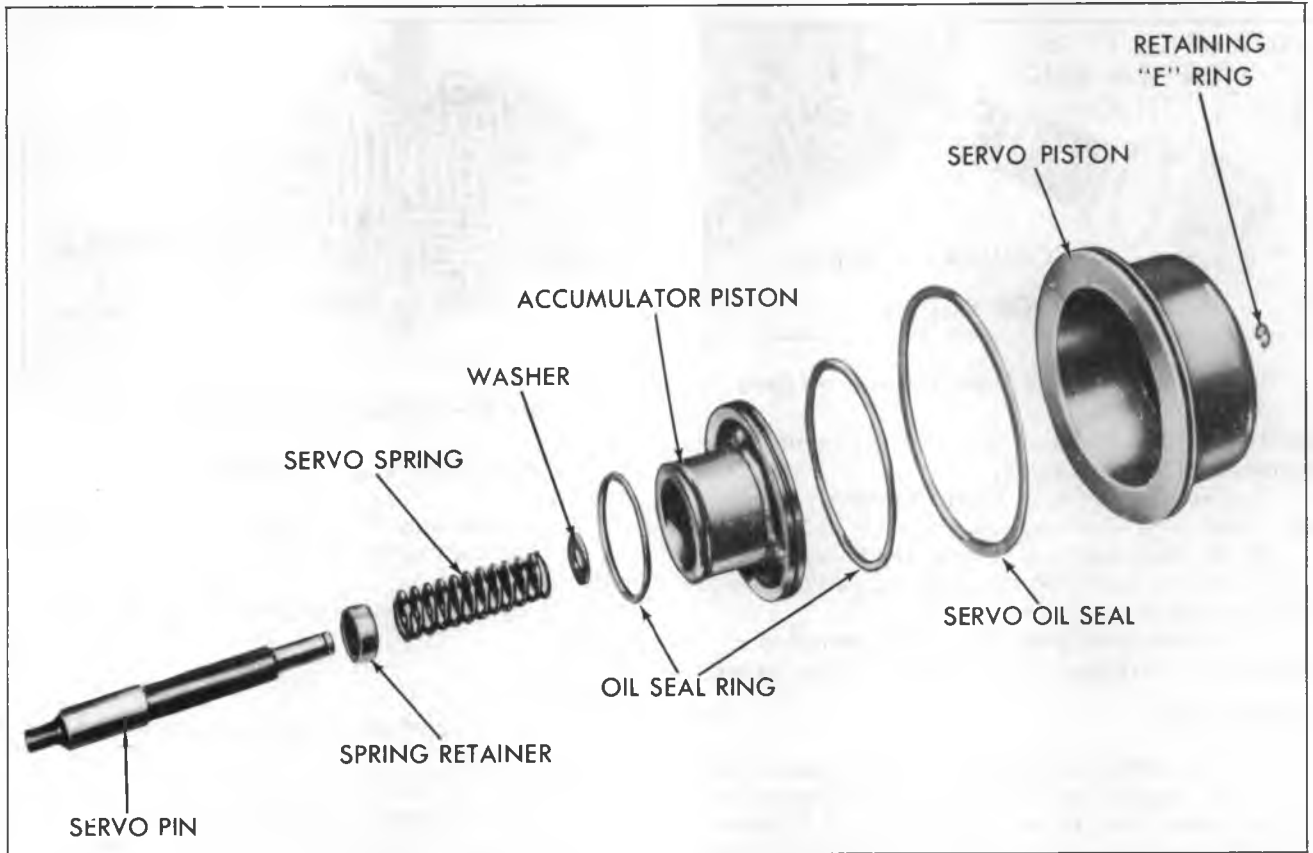

Figure 49—Rear Servo and Accumulator Components
3. Remove rear servo piston and seal from band apply pin (fig. 49).